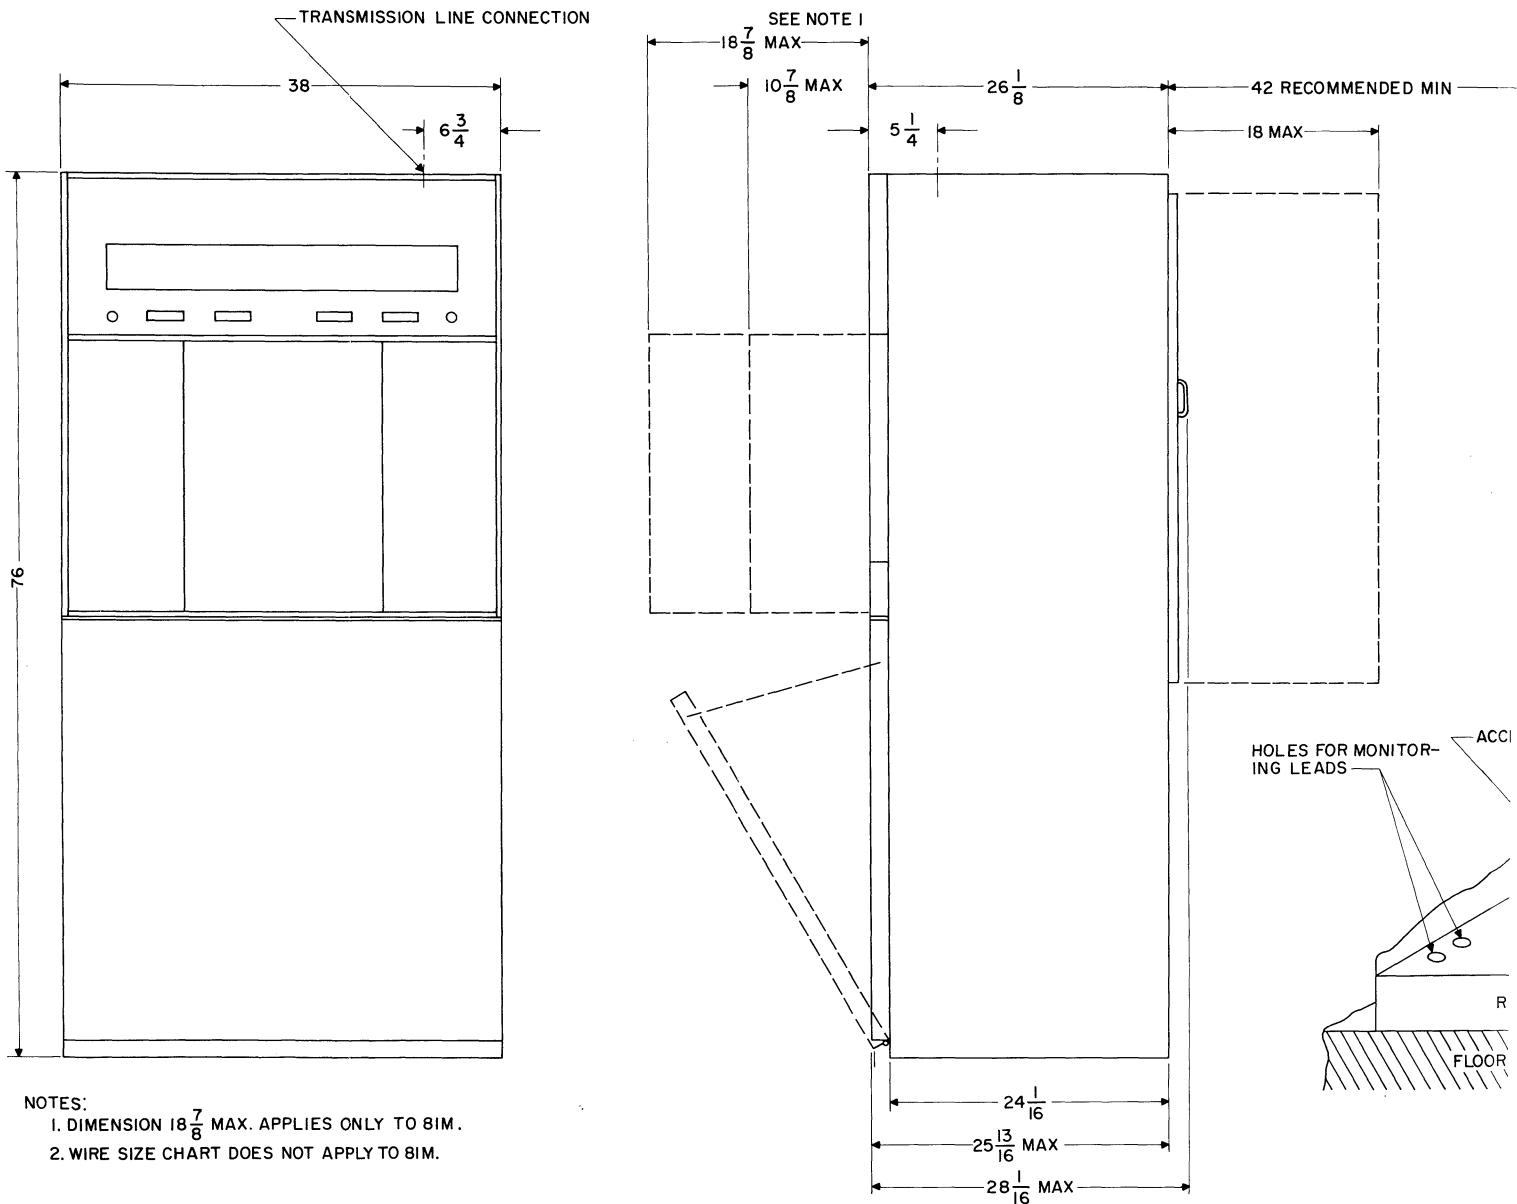

Figure 2-1. AM Broadcast Transmitter 20V-3,
Place the transmitter in its permanent location before replacing the units that were removed for shipping. Figure 2-1 shows arrangements that can be made before transmitter installation to accommodate power and audio inputs, and outputs for frequency, modulation, and audio monitoring. The external wiring requirements for these inputs and outputs may be met by laying a conduit in a concrete floor or by installing a wiring trench of sufficient size. Another alternative is to build a false floor under which the necessary wires and cables can be placed. The wiring trench must accommodate a three-wire power cable, two shielded twisted pairs, one RG-58/U coaxial cable, and one RG-8/U coaxial cable. The trench should also be large enough to contain several wires from the transmitter cabinet to the ground system of the building.
Refer to figure 2-1 for assistance in making the following external connections.
a. Connect the power input cables to the transmitter. Use the proper wire size given in figure 2-1. Bring the two power wires and the neutral wire in through the rubber grommet in the power line hole in the bottom of the cabinet and run them forward to the front panel. Connect the two power wires to the two outer terminals on terminal board TB100, shown in figure 6-3. Connect the neutral wire to the center terminal on TB100.
a. Again check all wiring and cable connections in the transmitter to be sure that each connection is electrically and mechanically firm. Refer to figure 2-1 and check to see that all connections are properly made. Paragraph 2.6 gives instructions for interpreting the cabling diagram.